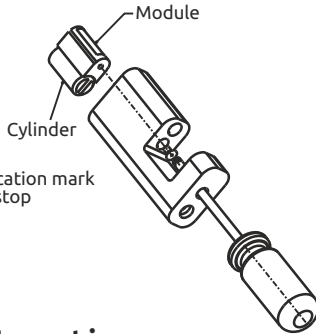

Fig. 3
9. With the key turned to the open position use a pair of suitable bent long nose pliers to firmly grasp the retainer through the hole (Fig3) and push down the retainer at the same time fully insert the Shackle bar.